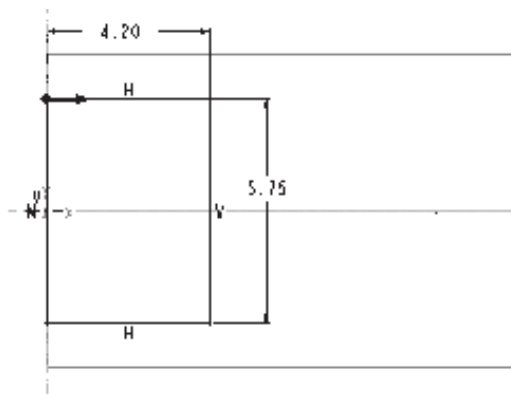

Figure 8-46 Sketch for first section with dimensions
13. Draw the sketch of the first section and add dimensions as shown in Figure 8-46.